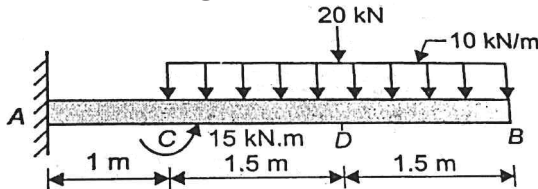

Figure Q.12 (a)
12. a) For the beam shown in fig. Q.12 (a) Draw the shear force and bending moment diagram.